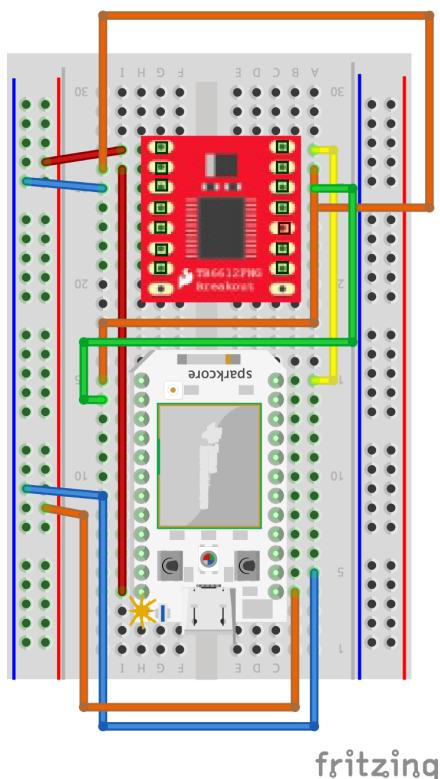

Figure 3-21 Wiring the motor driver
2. Connect AIN1 and AIN2 on the motor driver to D0 and D1. These two input pins will each correspond with the motor spinning in a different direction. Figure 3-21 shows the Fritzing diagram for the wiring.